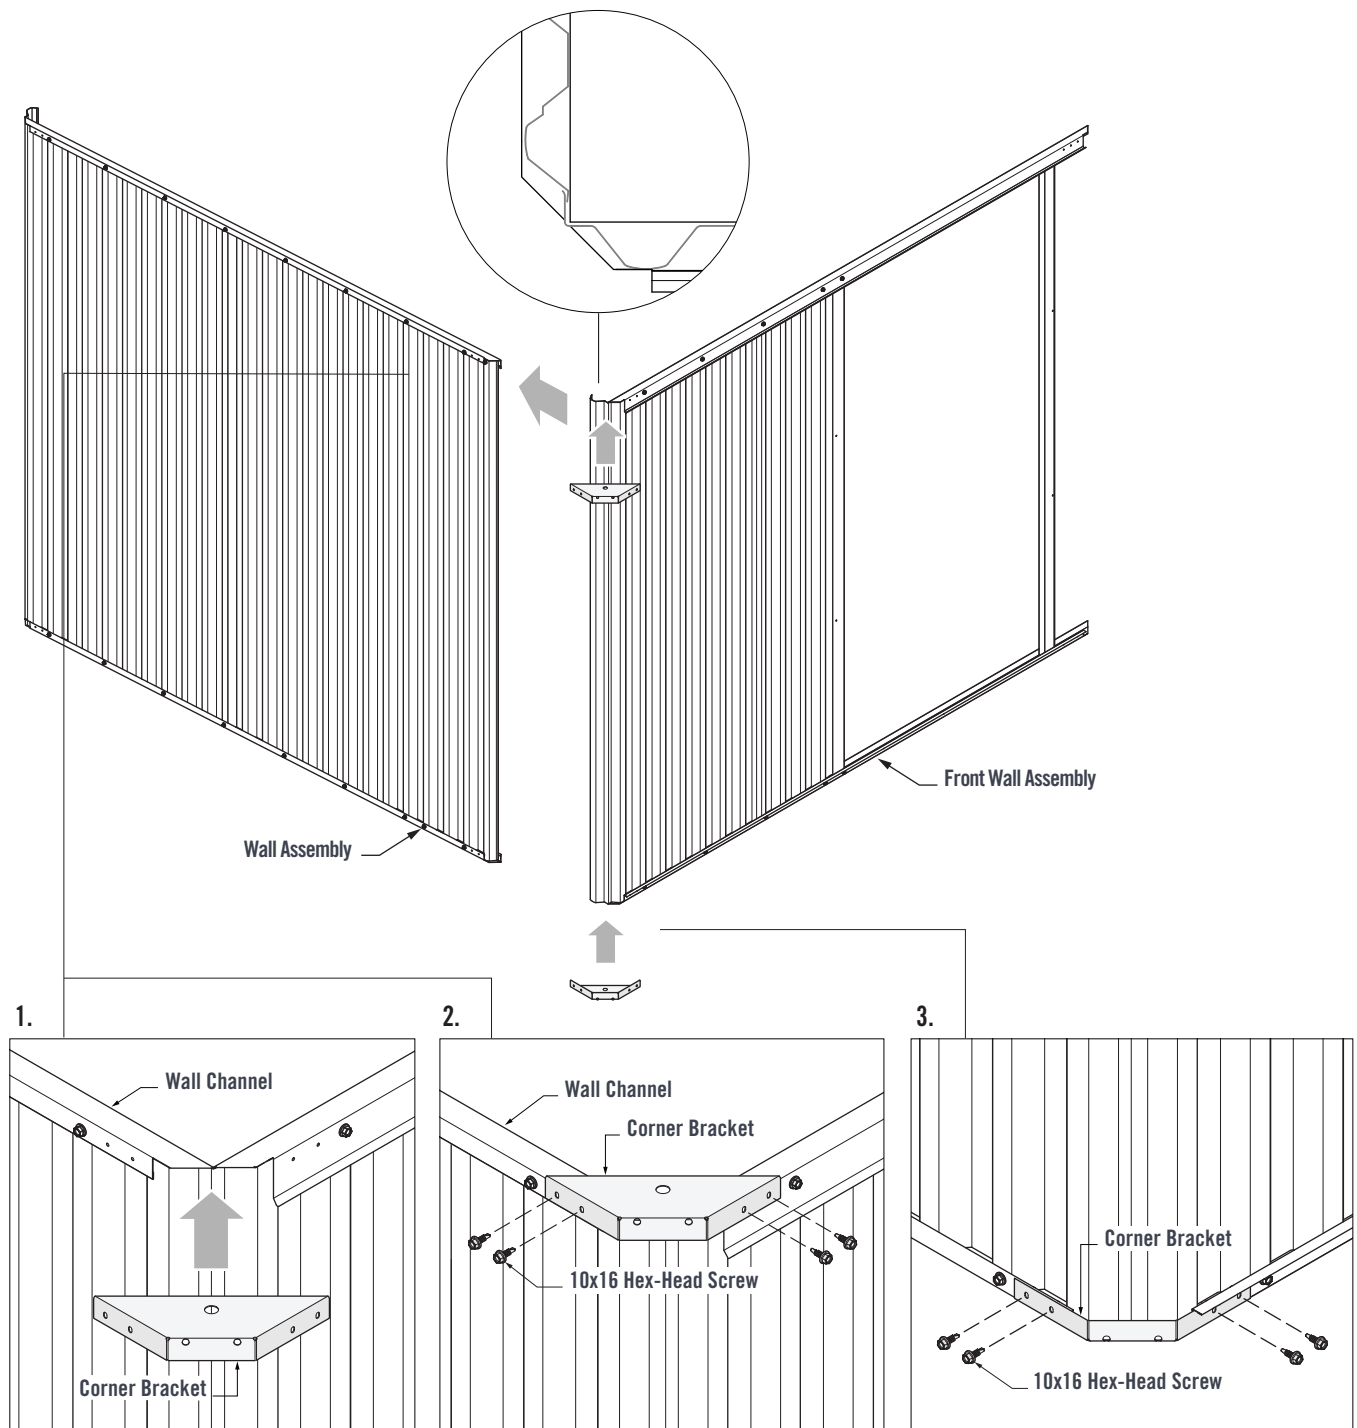

FIGURE 6.0
1. Fit a Corner Bracket over the top Channels. Ensure the pilot holes of the Corner Bracket and Channels line up (Figure 6.0).
2. Fasten through the Corner Bracket pilot holes and into the top Channels using four 10x16 Hex-Head Screws (Figure 6.0).
3. Fit a Corner Bracket to the bottom Wall Channels. Fasten through the Corner Bracket pilot holes and into the bottom Wall Channels using four 10x16 Hex-Head Screws (Figure 6.0).
Fit the Remaining Wall Assemblies together with Corner Brackets as per Figure 6.0.
2. Use the Door Shroud as a guide to set the correct spacing between the Door Jambs. Fit the Corner Bracket as per Figure 6.0.